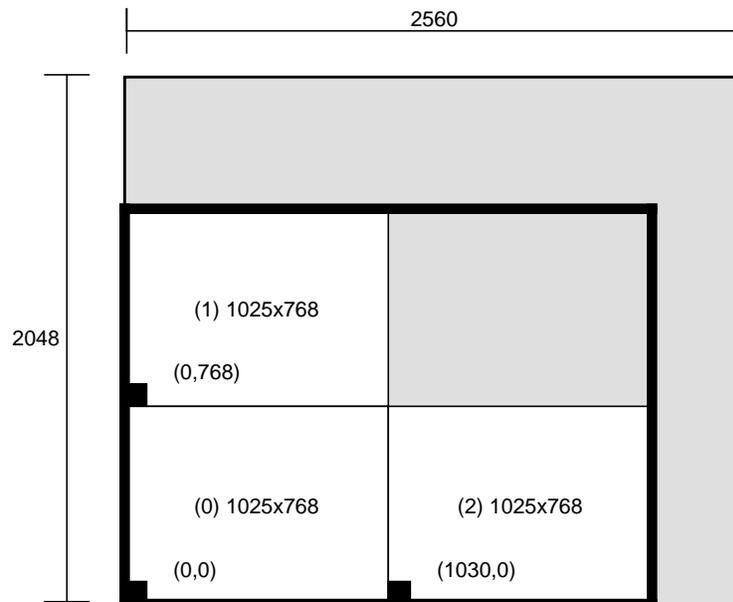

Figure 2-4 Display Surface for 3@1025x768_60
Figure 2-4 shows the maximum single display surface (shaded) and origins for the viewports (unshaded) for the output format 3@1025x768_60.
The third viewport (labeled (2) in Figure 2-4) has its origin (offset) at 1030,0 because it must start on a ten-pixel boundary. This requirement results in an unused five-pixel area between the third viewport and the other two viewports.